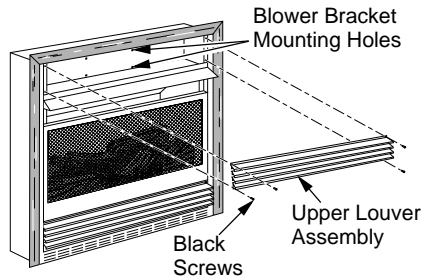
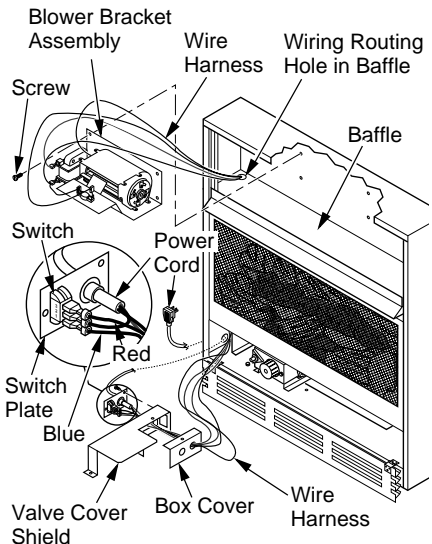

Figure 15 - Removing Upper Louver Assembly
Figure 17 - Installing Blower Bracket Assembly
2. Remove 4 screws from louver assembly (see Figure 15). Save these screws.
3. Note the wire locations on back of AUTO/OFF/ON switch. The terminals on back of switch are numbered 1, 2, and 3. Carefully remove red wire from terminal 1 and blue wire from terminal 3. Black wire can remain on middle terminal 2 (see Figure 17).
6. Route the wire harness through the hole in left side of baffle. Pull wire harness through lower opening above where the valve shield was removed. (see Figure 17).
7. Insert the 4 wire harness into one of the round holes in the rear of the valve cover shield and through the rectangular hole in the front of shield (see Figure 17).
9. Install the switch plate on the valve cover shield with 2 #10 screws provided (see Figure 17). Reinstall the valve cover shield. Route power cord out of the cabinet by inserting it through the bushing on the outer casing (see Figure 17). Plug fan kit into 120-Volt grounded power supply and test operation. *Note:* When switch is in the AUTO position, the fan will start after the heater has run for a few moments. The fan will continue to run for several moments after the heater has been turned off. When switch is in the ON position, the fan will run until turned to OFF. Reinstall upper louver assembly and hood if previously removed, (see Figure 15, page 13). Close lower louver door.
8. Reinstall upper louver assembly and hood if previously removed, (see Figure 15, page 13). Close lower louver door.